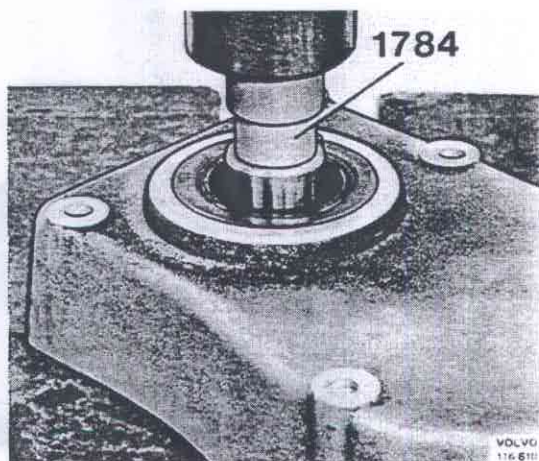

Fig. 48-10. Removing shaft
3. Press out the output shaft and bearing with 1784, see Fig. 48-10.